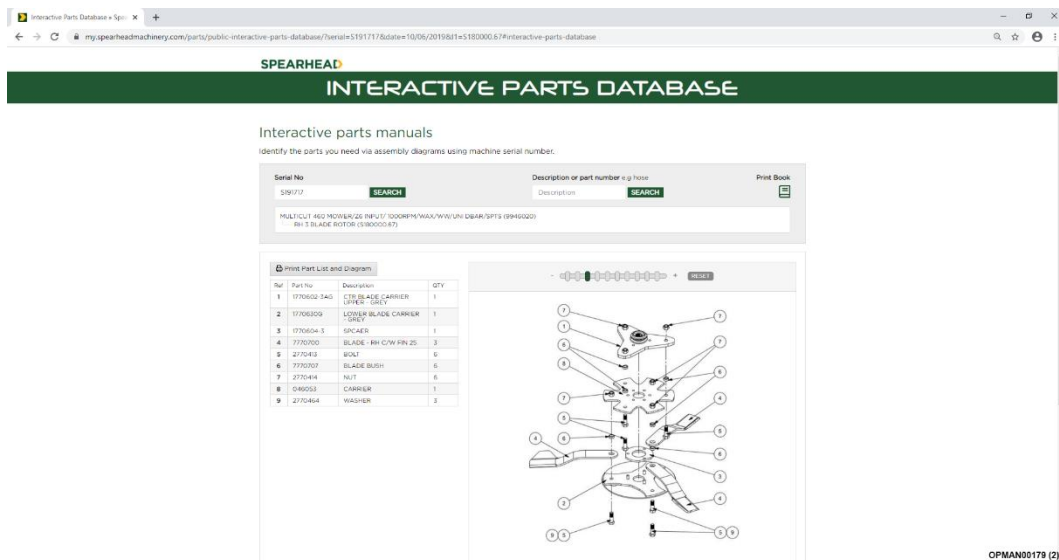

Figure 16 – Exploded Parts Breakdown With Bill Of Materials
- 7.1.1.4 You will finally be presented with a full exploded parts breakdown for that particular assembly, giving part numbers and the quantities required; see Figure 16.